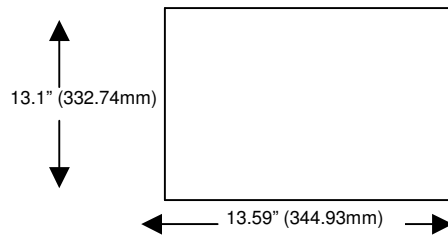
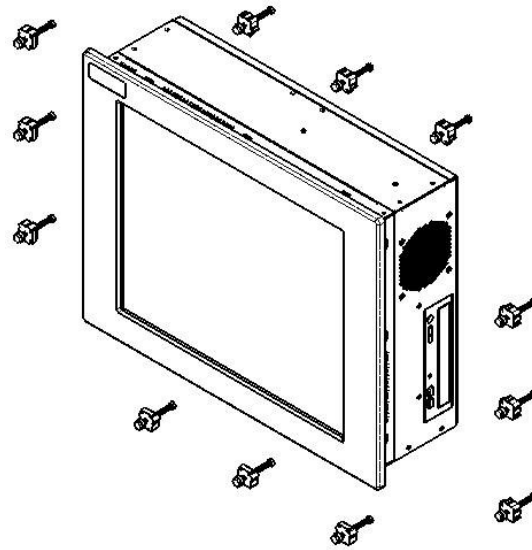
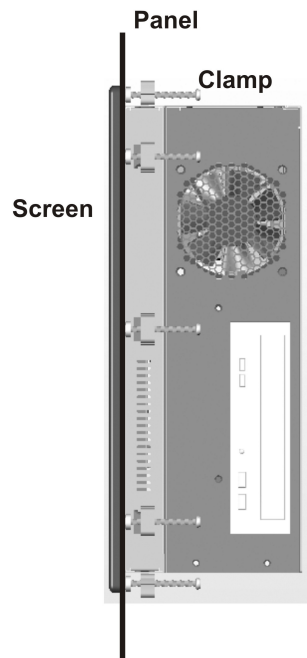

Figure 2-2. Panel Cutout Dimensions
Figure 2-3. Panel Mounting Diagram
Figure 2-4 Panel Mounting Diagram
2. Create a cutout in the enclosure (see *Figure 2-2*).
The 4117T is designed for panel mounting. Before mounting the 4117T to the panel, check the cut out dimensions as shown in Figure 2-2. Then, mount it to the panel using twelve supporters, as shown in the Figure 2-3 and Figure 2-4 (see next page).